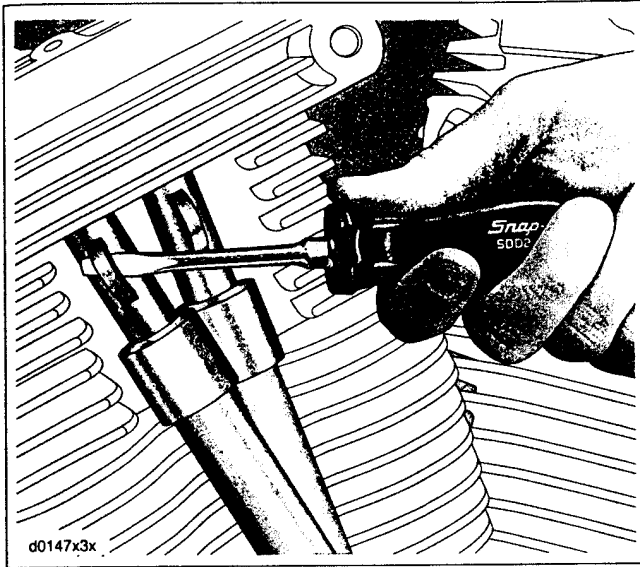

Figure 3-20. Removing Spring Cap Retainer
1. See Figure 3-20. Insert the blade of a small screwdriver into cast loop of spring cap retainer (at top of upper pushrod cover). While pushing down on spring cap, rotate bottom of screwdriver toward outboard side to remove. Repeat step on second pushrod cover.